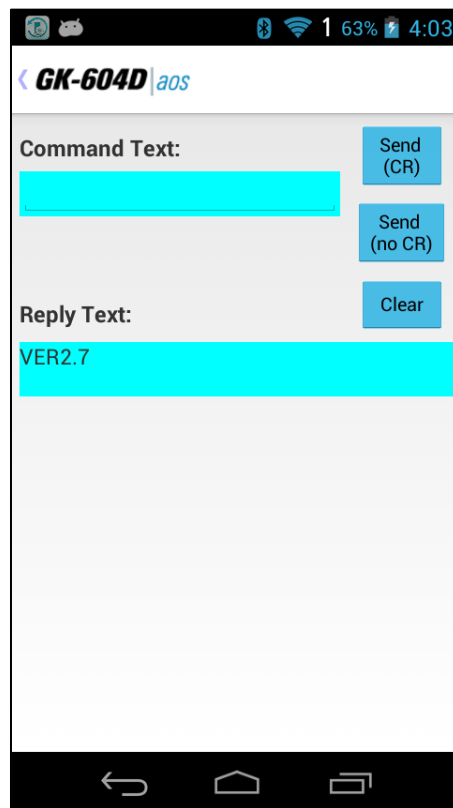

Figure 41 - Terminal Window
If a connection can be made, the window shown in Figure 41 is displayed. Using the "Terminal Window" requires the use of the on-screen keyboard to enter simple one or two character commands to the Remote Module. See Appendix D for more information regarding the Remote Module command structure.
After typing in a command, tapping the "Send (CR)" button will cause the command to be sent to the Remote Module. Figure 41 shows the response to a Firmware Version command (4).